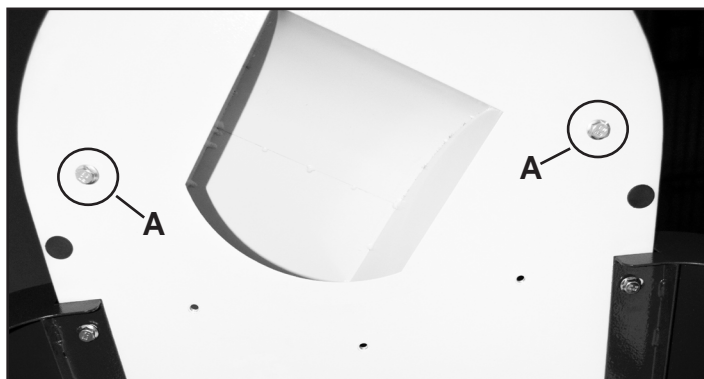

FIG. 22
1. Install two M8X16 Hex Head Flange Bolts to the underside of the Dust Plenum as shown, A-Fig. 22. Leave the bolts loose at this time, providing a 1/4" space between the head of the bolt and body of the Dust Plenum.